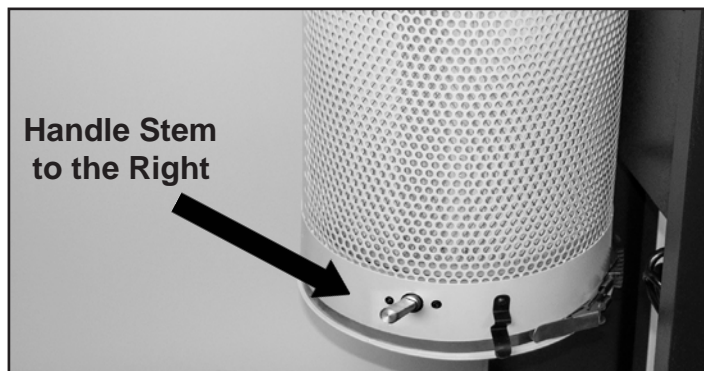

FIG. 24
3. Make sure that the filter cleaning handle stem is oriented to the right as shown in Figure 24.